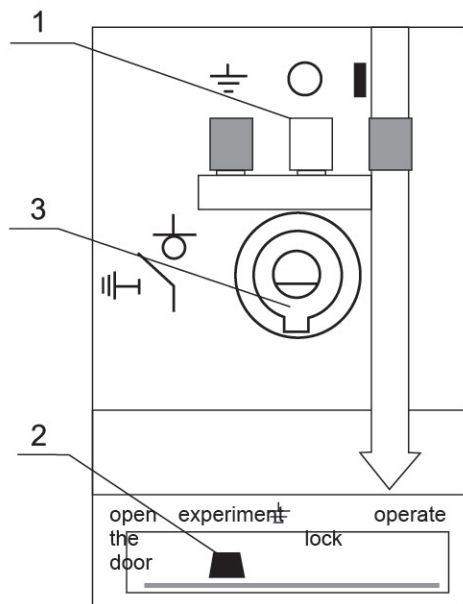

Figure 7
Place the load switch location indicator to the site shown in the Figure7 (1). The selector is placed on the test site, shown in Figure7 (2). Check the shaft rabbit which should be downwards as indicated in Figure7 (3). Insert the operation handle to the slot, then make the guidance key match the slot shafting, turn it with approximately 80 degrees clockwise until it is on the earthing site.